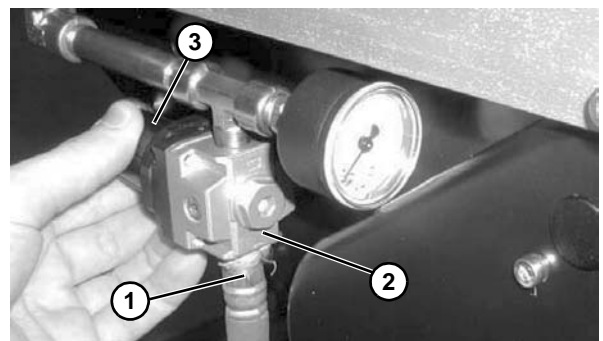

Figure 68
1. Connect air supply (Figure 68, item 1) to regulator (Figure 68, item 2).
2. Adjust regulator knob (Figure 68, item 3) until gauge reads the appropriate pressure. Adjust regulator starting at 15 psi, raising the pressure to keep the belt from slipping up to the maximum shown in the following table.